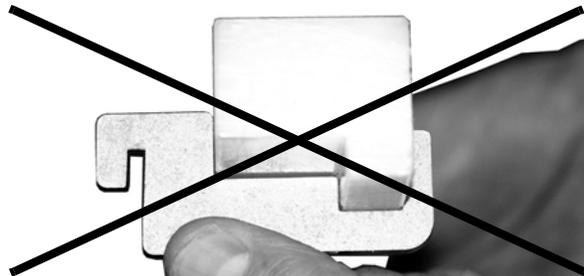
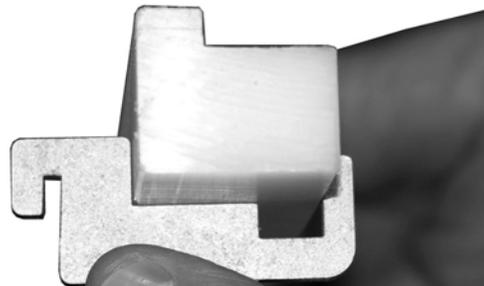

Figure 36
Figure 37
- Verify that belt returns are mounted correctly by following graphic below (**Figure 36**) shows incorrect mounting and (**Figure 37**) shows correct mounting.